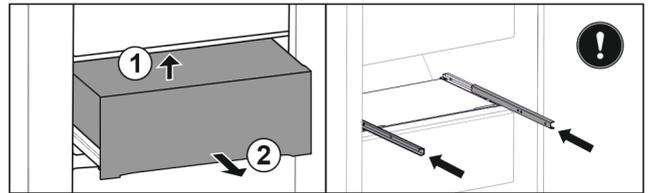

Fig. 29*
- ▶ Lift up at the back from below Fig. 29 (1).*
- ▶ Remove to the front Fig. 29 (2).*